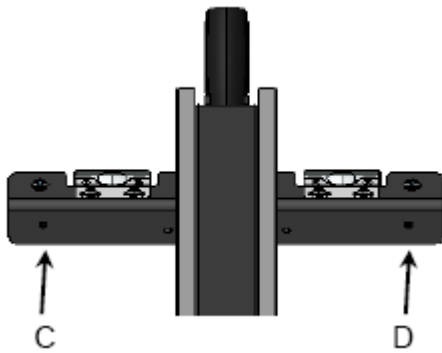

Fig. 13
2. If the fence is not parallel, it can be adjusted by using an Allen key to turn one or both of the screws C or D Fig. 13. Do this slowly, just an eighth to a quarter turn at a time, or you will quickly overshoot the desired adjustment.